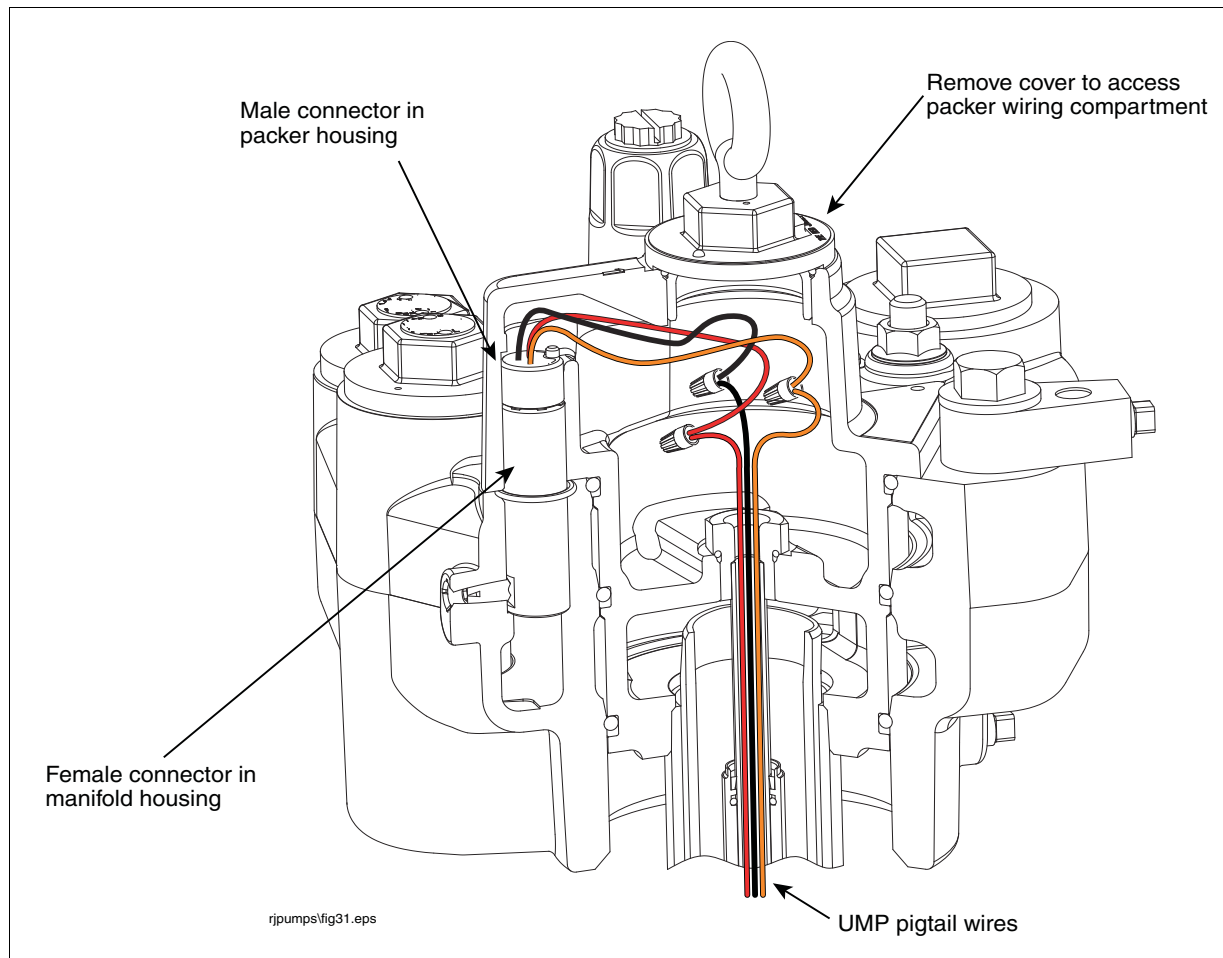

Figure 14. Connecting UMP To Packer Wiring
13. Connect like colored wires from the UMP to like colored wires from the male connector with wire nuts. When finished connecting the wires, neatly coil wires inside the packer's wiring compartment (see Figure 14).